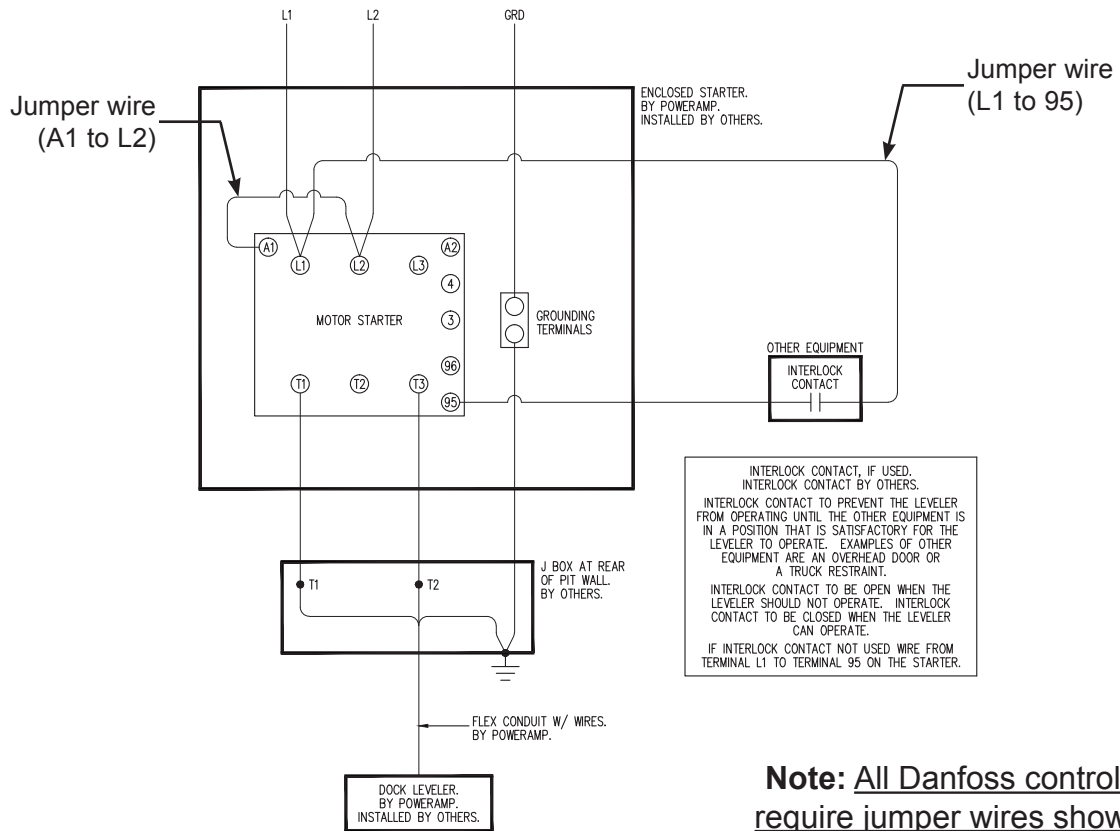

**Figure 12**
1. Mount the push-button control panel (B) so bottom of control panel-to-dock floor distance (C) is 48 in. (1219 mm). See Figure 12.
2. Install electrical disconnect panel (A) if not already installed. Disconnect panel supplied by others.